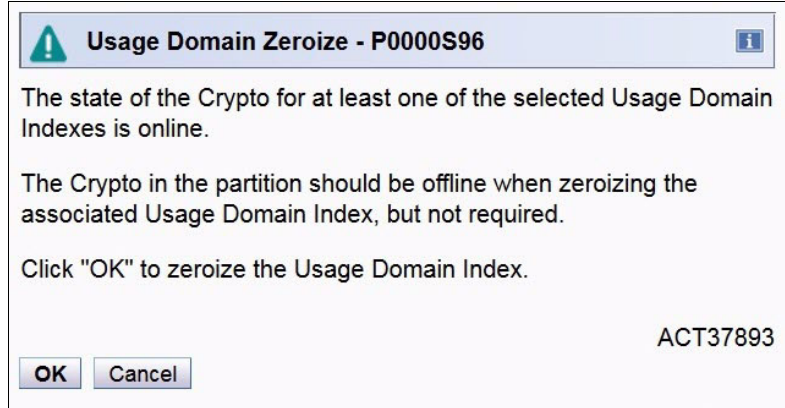

Figure 10-10 SE: Change LPAR Cryptographic Controls: ACT33680
- In the confirmation window (Figure 10-10), click **OK** to dynamically change the cryptographic settings. After processing, a status window indicates the result of the dynamic change of cryptographic definition to an LPAR.